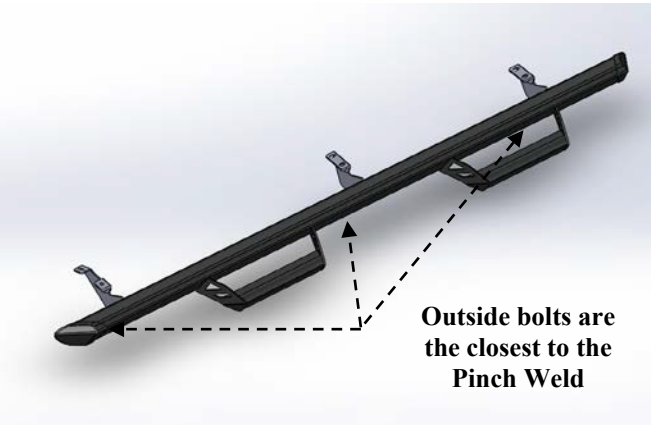

Figure 4
- Snug the Front and Rear bracket bolts starting with “Outside bolts” first (closest to the pinch weld). See Figure 4.